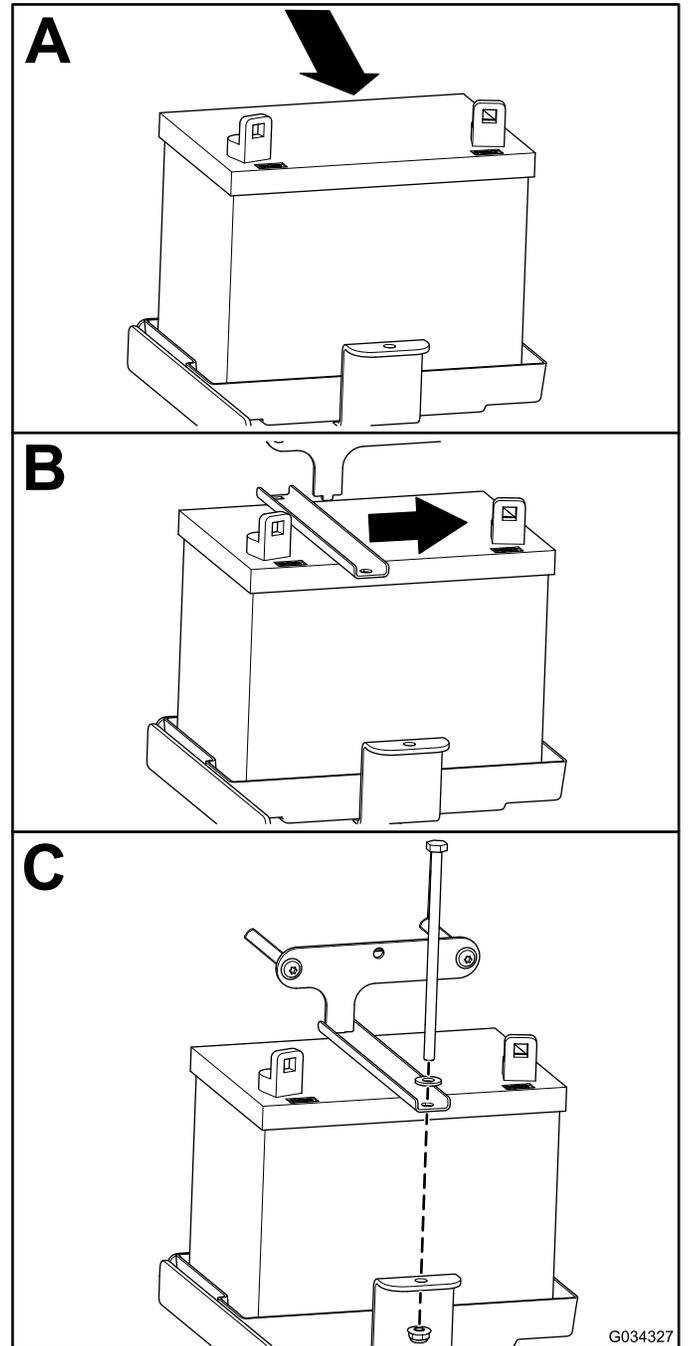

Figure 51
1. Install the battery as shown in Figure 51.